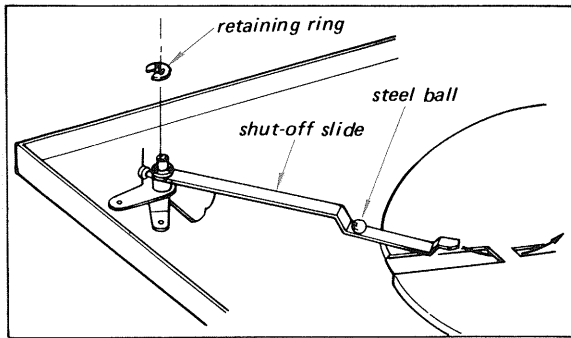

Fig. 2-11. Shut-off slide removal
7. Remove the shut-off slide by removing the retaining ring from tone-arm lever assembly. See Fig. 2-11. Take care not to lose the steel ball inserted between the shut-off slide and turntable base as shown in Fig. 2-11.